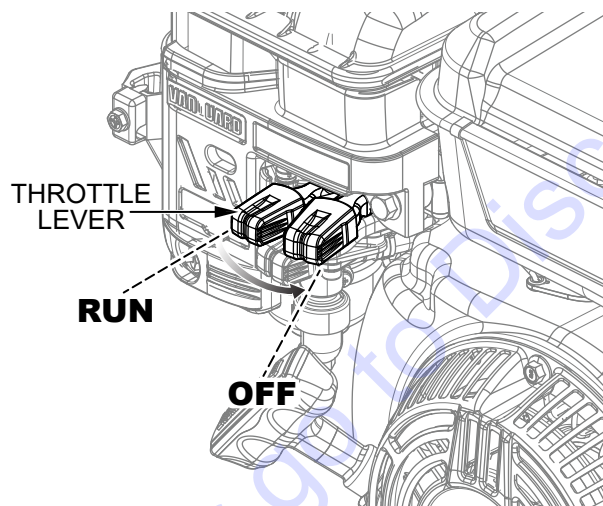

Figure 40. Engine Throttle Lever (OFF)
2. After the engine has cooled, place the engine throttle lever in the **OFF** position (Figure 40). This action will also turn off the engine fuel valve.